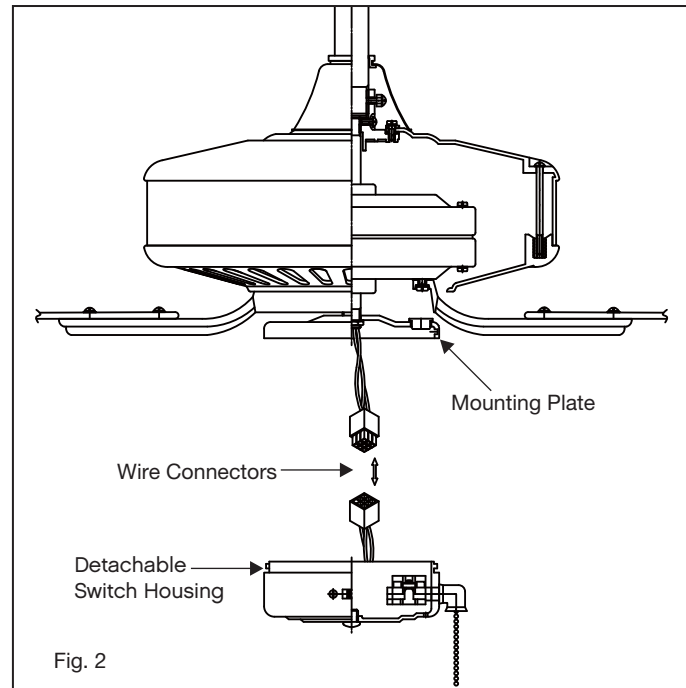

Fig. 2
- 3 Loosen the two security set screws and remove the downrod pin instead of hitch pin from the coupling on top of the motor assembly. (Fig. 2)
- 2 Connect the plug and receptacle and make sure side buckle snaps in place. (Fig. 2)